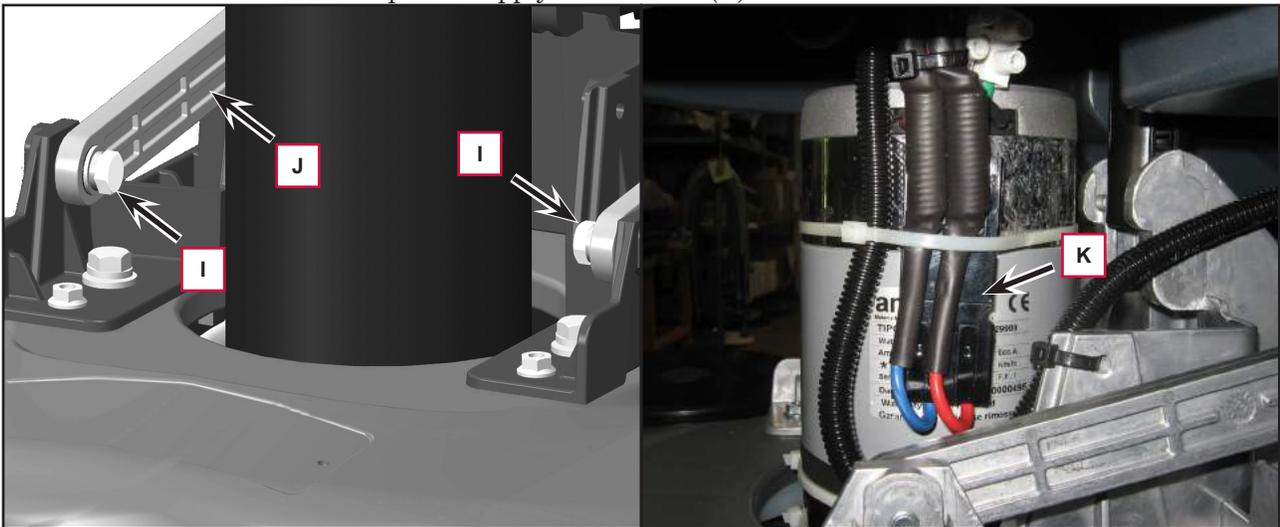

Figure 9
- Remove the 2 screws (I) (Figure 9) fastening the deck raising levers (J), retaining the bushings and washers.
- Disconnect the REV motor power supply connections (K).